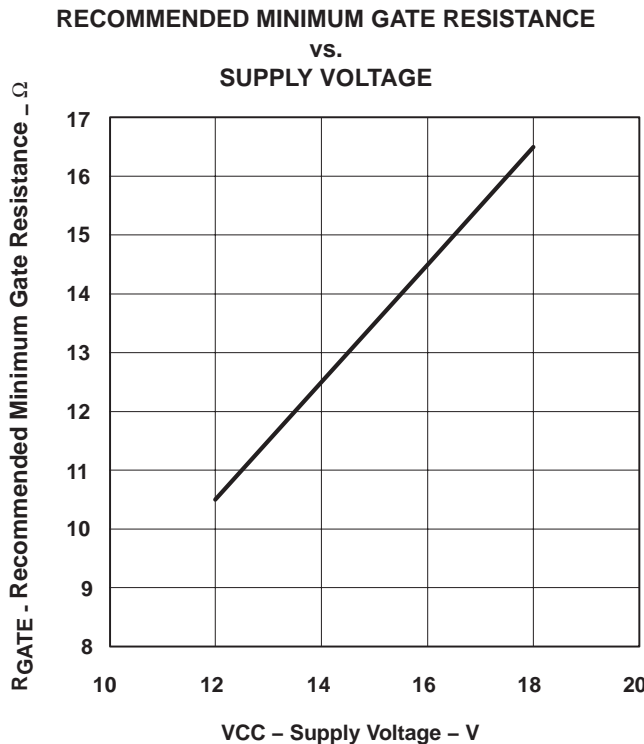

Figure 4
**GT1:** (gate drive) The output drive for the PFC stage is a totem pole MOSFET gate driver on GT1. Use a series gate resistor of at least 10.5  $\Omega$  to prevent interaction between the gate impedance and the GT1 output driver that might cause the GT1 to overshoot excessively. Some overshoot of the GT1 output is always expected when driving a capacitive load. Refer to Figure 4 for gate drive resistor selections.